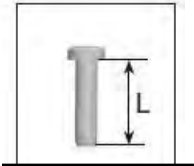
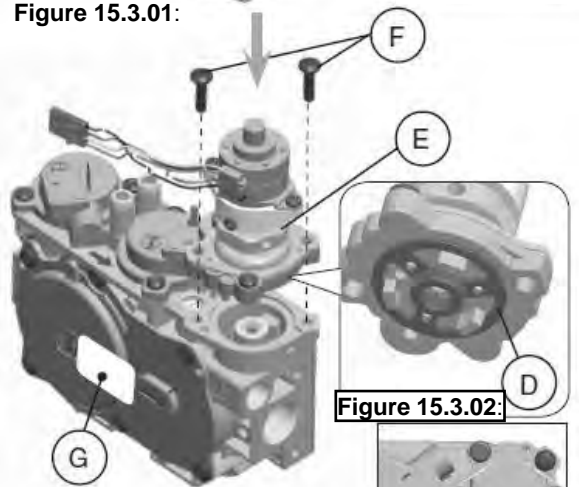
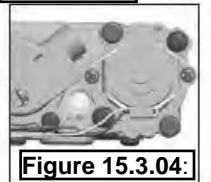

Figure 15.3.05:
Figure 15.3.03:
Figure 15.3.04:
4. Install the new STEPPER MOTOR pressure regulator assembly, as shown in **Figure 15.3.03** and **Figure 15.3.04**. Use the supplied screws (F), M4 x 0.7 threaded, length of thread $L = (16 \text{ mm} + 0 - 0.5 \text{ mm})$, steel material, resistance class 8.8 (see **Figure 15.3.05**).